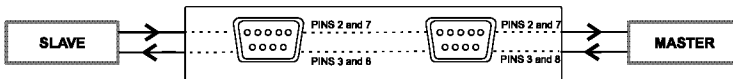

Figure 6: Bi-directional Signals II
- When a *Master* device changes position with a *Slave* device, the pins change, as Figure 6 illustrates: